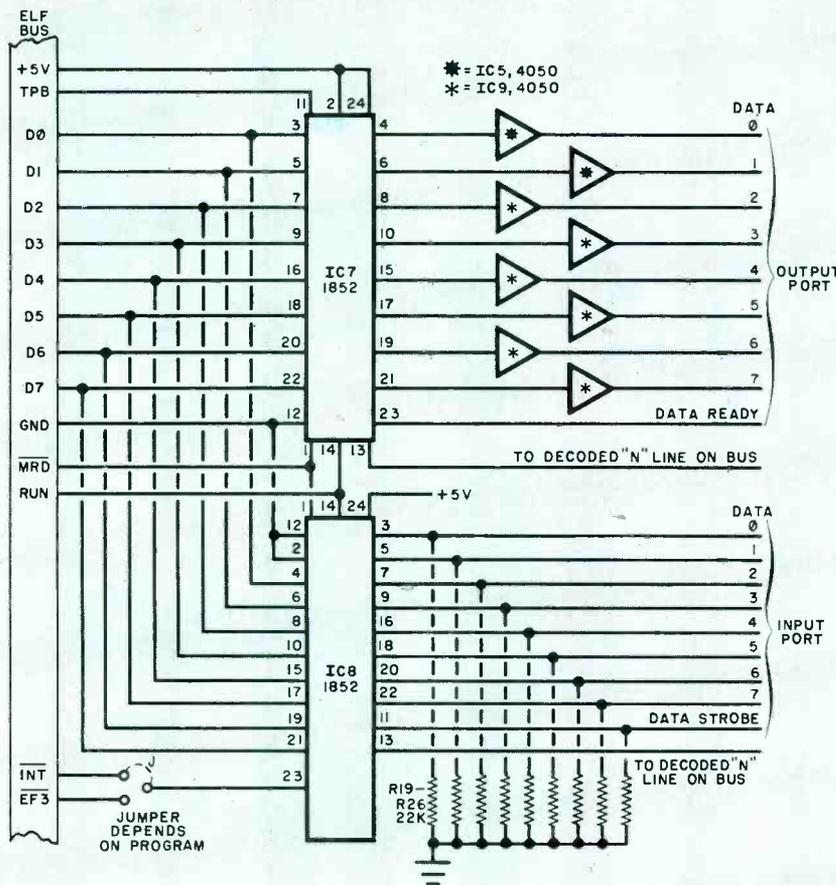

Fig. 5. Two IC's form 8-bit parallel input/output port. They use N-line from Fig. 4 determined by program.
**I/O Ports.** If you have a need to interface the Elf II to an external peripheral that requires parallel data (ASCII keyboard, for example), use the circuit shown in Fig. 5. Output port IC7 has its data output lines buffered by IC9 and sections of IC5. Pin 13 (CS2) of this stage can be connected to any of the decoded N-lines. When pin 2 (mode control) is high, the 1852 is configured into an output port. Data is strobed into the output port when pins 11 and 1 are high.